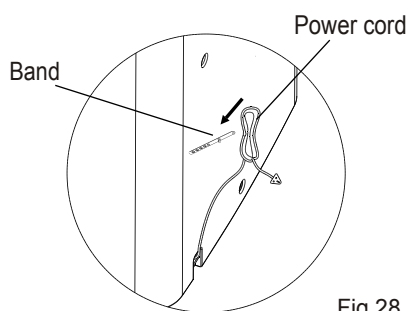

Fig.28
- Stop the appliance and unplug it, wrapped the cord and bundle it with the tape(Fig.28). Remove the batteries from the remote controller.